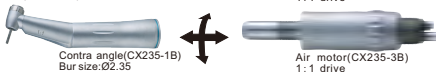

Fig. 3.2
2. Hold the bending machine and pull out the motor, it will be separated[fig.3.2].